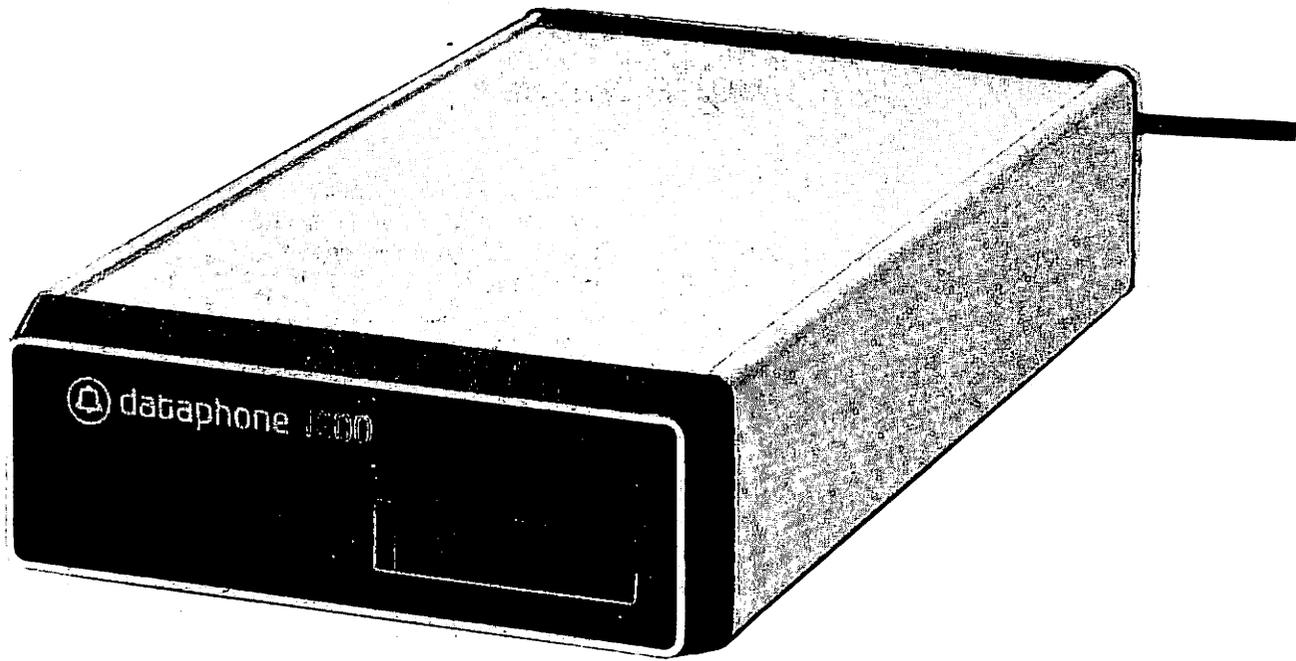

Fig. 1—47A1 Data Mounting
**1.02** The 47A1 data mounting (Fig. 1) is used with data set 202S and includes the following: